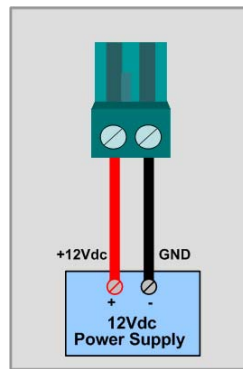

Figure8. Power Supply-2
- As shown in Figure 8, connect it to power.